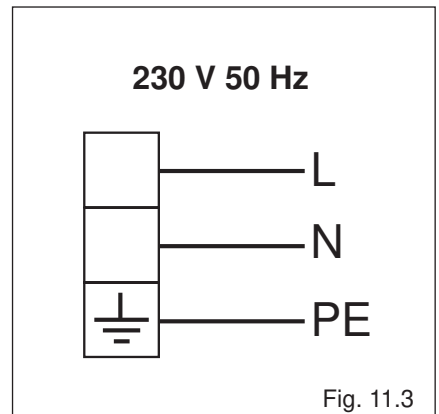

Fig. 11.3
- Connect the phase, neutral and earth wires to terminal board “G” according to the diagram in fig. 11.3.